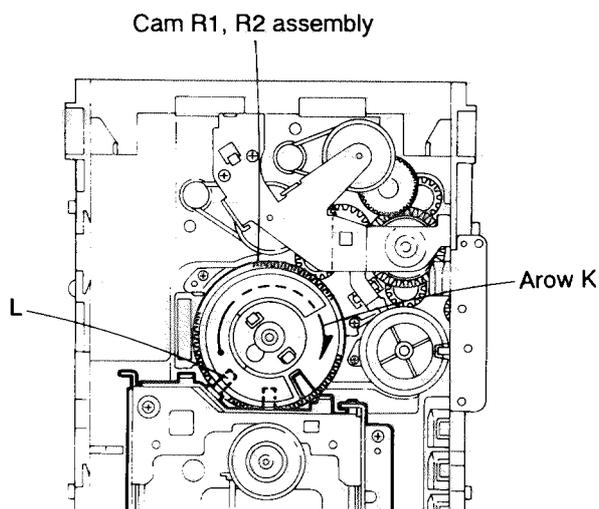

Fig. 2-20
Removing the CD mechanism (See Figs. 2-20 and 2-21)
1. For dismantling only the CD mechanism without removing the CD mechanism assembly, align the shaft (L) of the CD mechanism assembly to the position shown in Fig. 2-20 while turning the cam R1 and R2 assembly in the arrow direction (K).